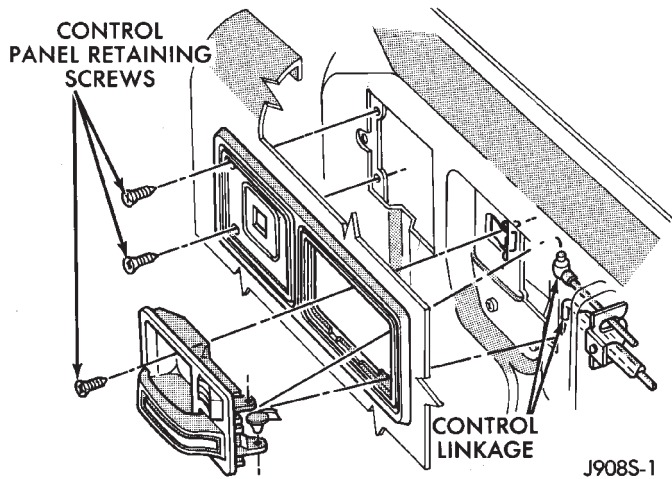

Fig. 2 Door Control Panel Remove/Install
- (1) Remove interior door latch release assembly and control panel retaining screws (Fig. 2).